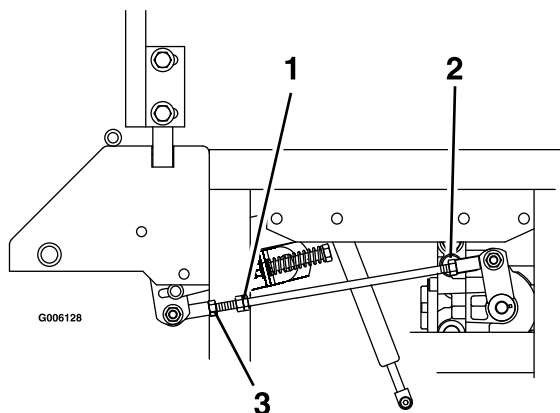

Figure 20
6. Loosen lock nuts from the ball joints at each end of the pump control linkage (Figure 20).
appropriate direction until the wheels slightly creep in reverse (Figure 20). Move the motion control lever to the reverse position and while applying slight pressure to the lever allow the reverse indicator spring to bring the levers back to neutral. The wheel must stop turning or slightly creep in reverse. When adjustment is complete, tighten lock nuts onto ball joints.